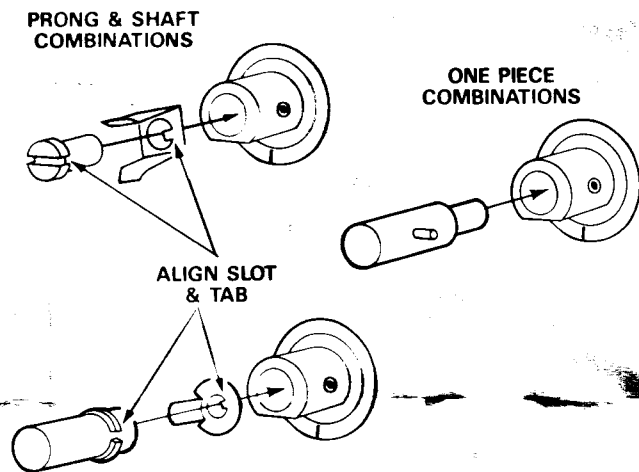

FIGURE 2
- Turn the defective and replacement controls to the "NORMAL" or mid-scale position. (See Figure 4.) Assemble the shaft and driver to the replacement control as shown in Figure 2 below using the defective control as a guide for proper positioning. Tighten the set screws to secure the shaft.